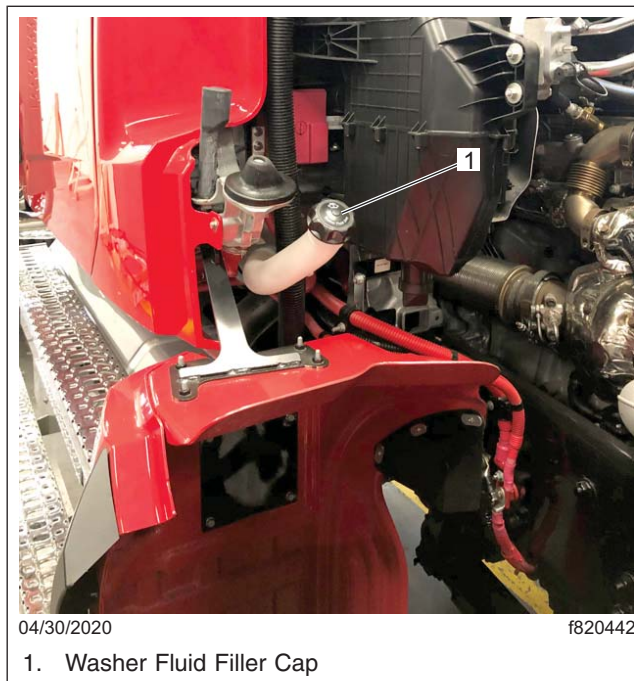

Fig. 22.10, Windshield Washer Reservoir
1. Check the windshield washer reservoir fluid level. The reservoir is usually located near the right-hand frame rail. See Fig. 22.10.